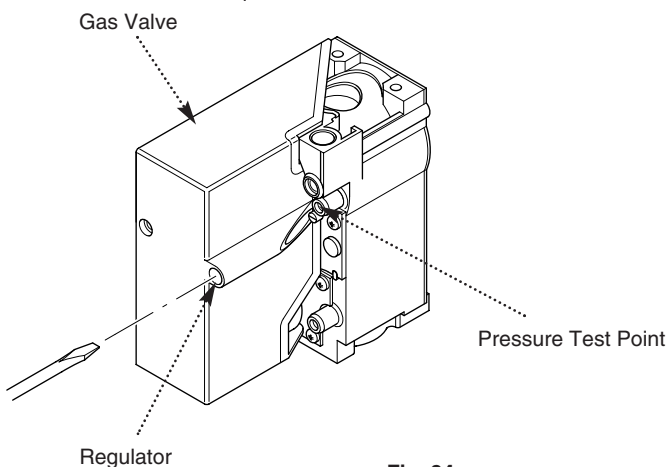

Fig. 84
2. From the table opposite check that the main burner pressure is correct after the appliance has been running for 10 minutes. If necessary, adjustment to main burner pressure can be made by altering the regulator as shown (Fig. 84).
4. Turn the boiler thermostat to the OFF position marked 0. Remove the pressure gauge and screw home the pressure test point screw. Turn the boiler thermostat knob to the required setting (Fig. 84).